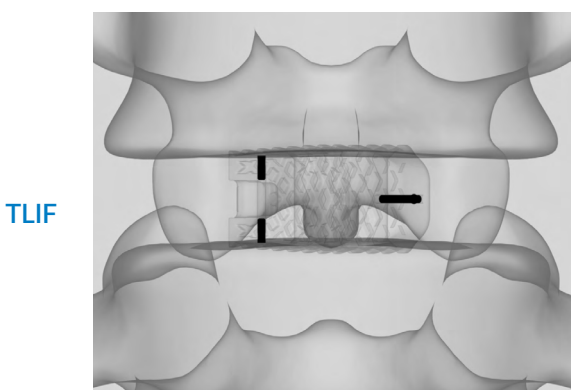

Figure 11C
Unilateral Approach: The A/P view should show one (1) horizontal pin at the anterior face of the implant and two (2) vertical pins at the posterior face of the implant (at the superior and inferior implant surfaces). The horizontal pin indicates the distal position of the implant nose, which should be near or slightly across the midline (Figure 11C).